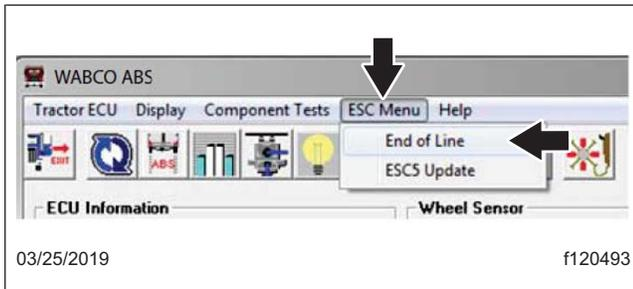

Fig. 3, Selecting the ESC Menu (software version 10)
3. If using software version 10, select 'ESC Menu.' A drop down list opens. Select 'End of Line.' See Fig. 3.
2. Begin with the vehicle at a complete stop. From the main menu, select 'ESC Menu,' then select 'End of Line.' See Fig. 3.